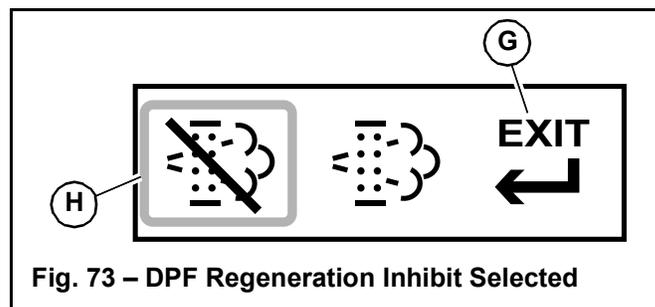

Fig. 73 – DPF Regeneration Inhibit Selected
- A-1. Press and release the interface button to move box (H, Fig. 73) around the regeneration inhibit symbol, as shown Fig.73.
NOTE: “EXIT” selection (G, Figs. 73 and 74) returns the display to the configuration selection screen without changing DPF regeneration settings.